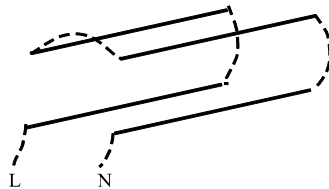
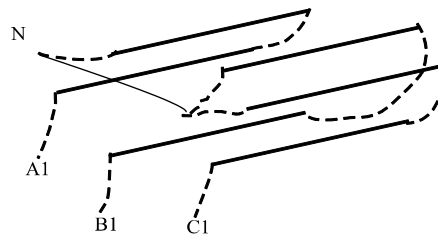

Fig.6. - Element Connections - 4 elements
Fig.8. - Element Connections - 6 elements, 3 phase
*STF:* Attach the braids according to the notes made, or according to the appropriate diagram, fig.6 to fig.8. Use the special tools (or finger pressure) to fit the clips. Take care that clips do not touch each other or any other metal parts.